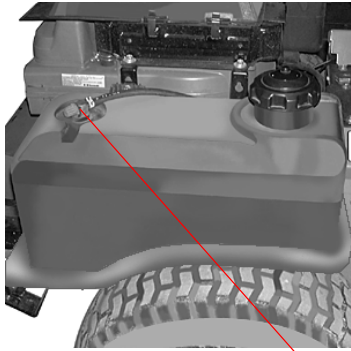

Figure. 4 Fuel Shutoff Valve
7. **Fuel Shutoff Valve:** (See Figure 4.) Located behind the operator's seat, the valve has three (3) positions: "off", "Left Tank", "Right Tank". Close this valve if you are not going to run the mower for a period of 30 minutes or more to prevent flooding the engine. The fuel system operates at 25 psi when the ignition switch is in the "on" position.